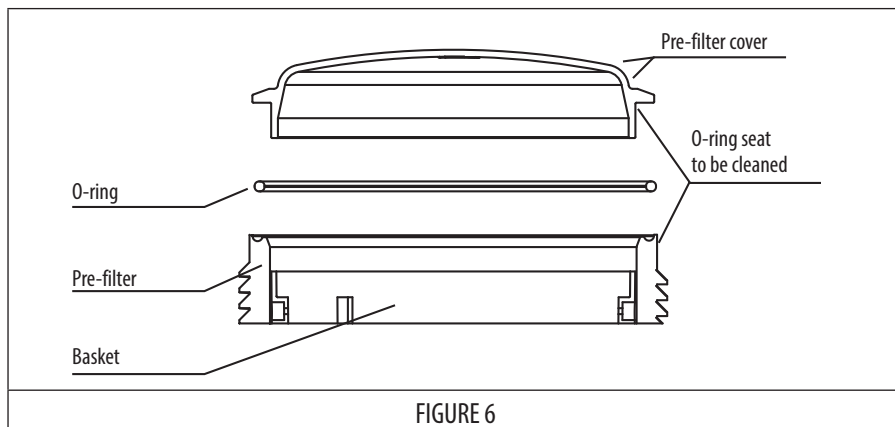

FIGURE 6
- Every time the pre-filter is opened, clean off any dirt on the seal and its housing to ensure the cover is watertight when closed (Figure 6).